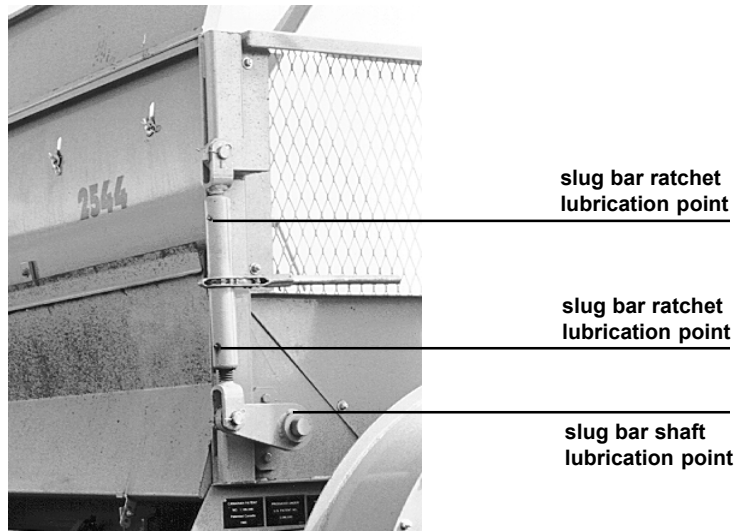

Figure 4.2
- Pivot Point between Lower and Upper Loader Frame - 2 see figure 4.2